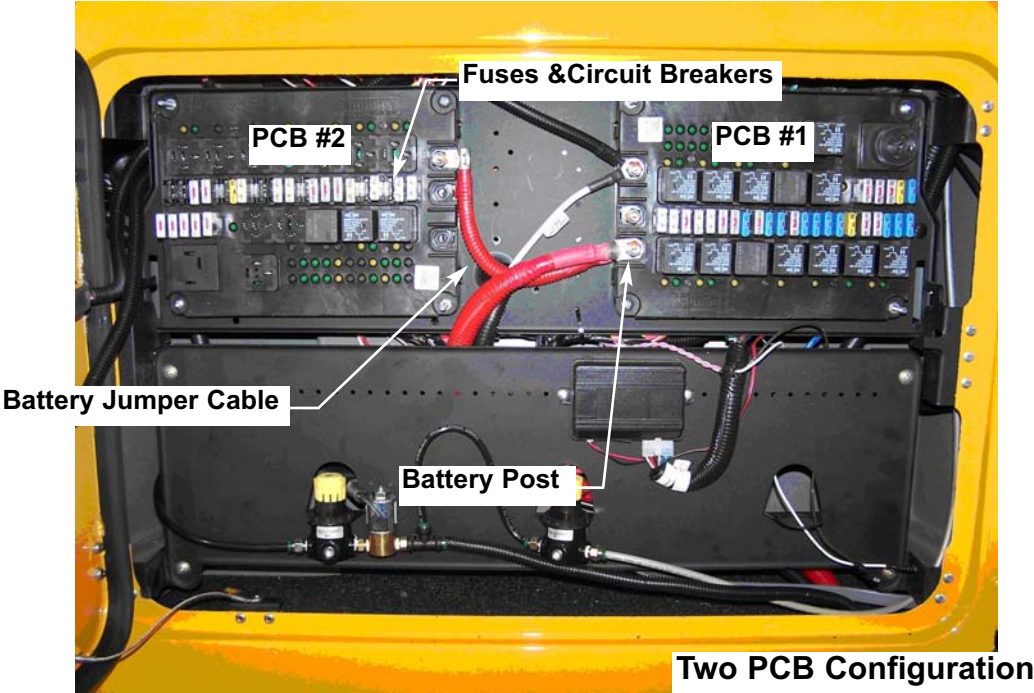
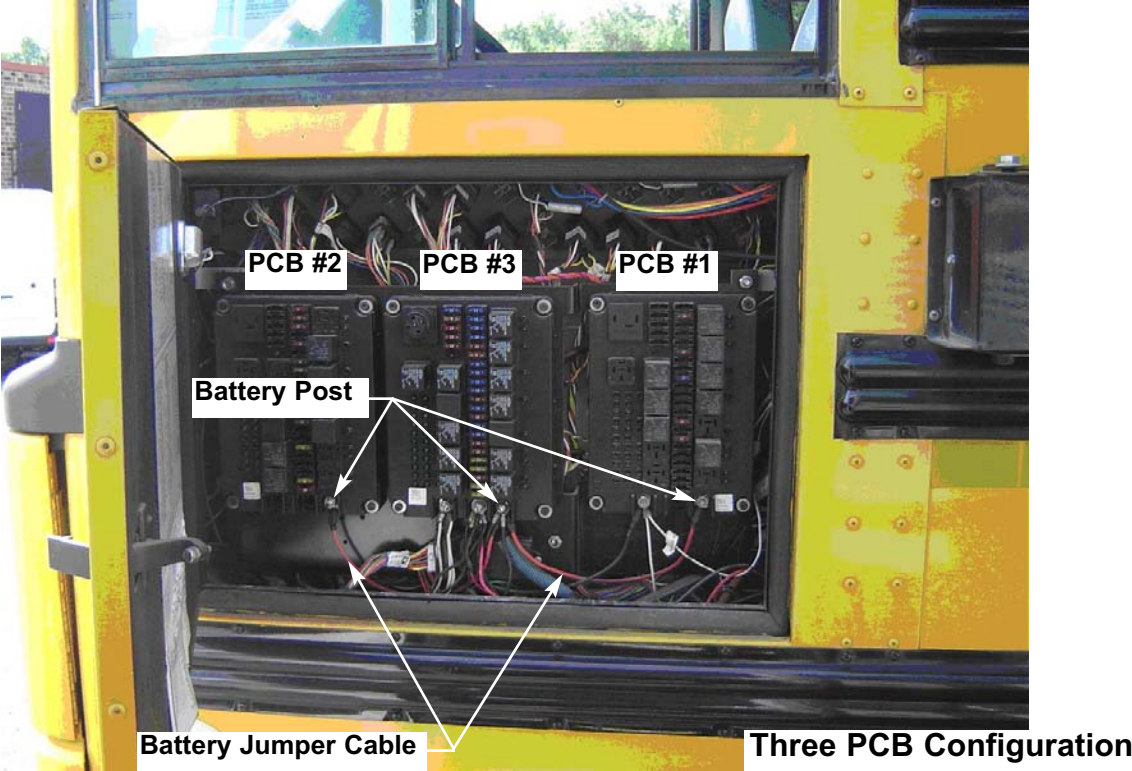

Figure 1
Figure 2
Figure 1 shows the two PCB configuration and **Figure 2** shows the three PCB configuration. These figures are typical configurations and will be used as a reference for parts identification.
2. Remove the PCB Jumper Cable, and discard, see **Figures 1 and 2**.